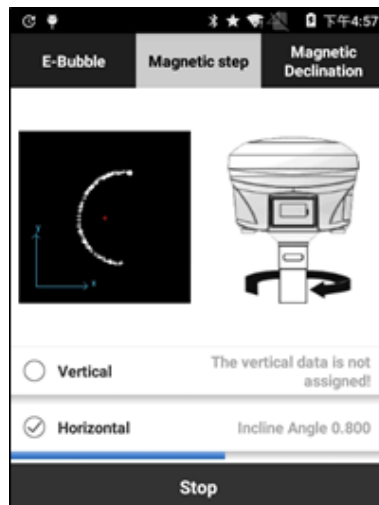

Figure 4.9-4
(1) Record Horizontal data: install the device on retractable pole as shown in Screen (align the retractable pole with the red point on device connector). Press [Horizontal] and rotate the device with retractable pole as axis (no limit to rotation direction). Rotation speed should be not more than 15°/s, taking more than 30 seconds for one rotation. When data has been collected, receiver will beep. The horizontal data recording process is shown as Figure 4.9-4. After the horizontal data recording is shown as Figure 4.9-5.